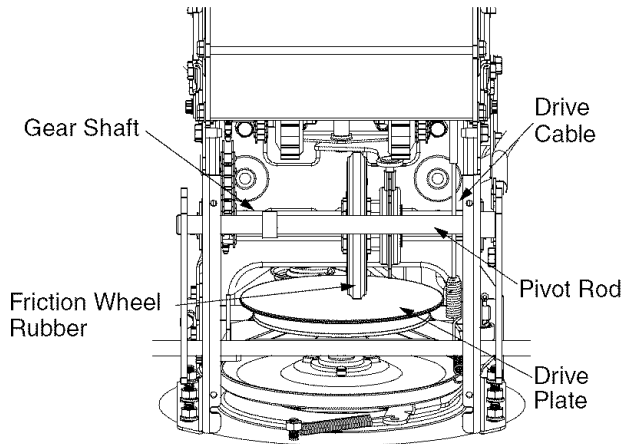

**Figure 25**
8. Remove the frame cover underneath the snow thrower by removing the four self-tapping screws. See Figure 25.